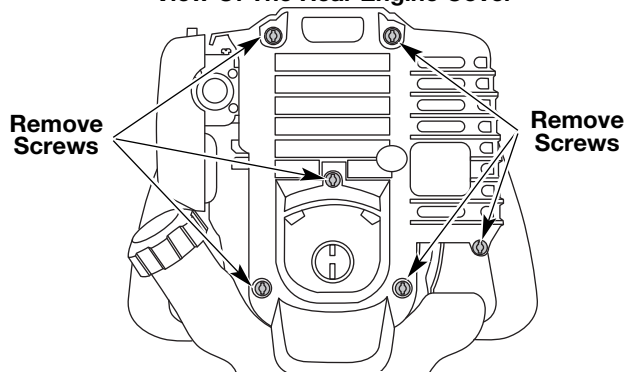

Fig. 30
1. Remove the six (6) screws on the back of the engine cover with a Flat-head or T-25 Torx screwdriver (Fig. 30).
4. Remove the engine cover (Fig. 30).
1. Stop the engine and allow it to cool. Remove the six (6) screws on the back of the engine cover with a Flat-head or T-25 Torx screwdriver (Fig. 30).